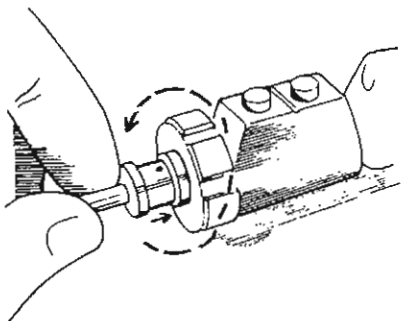

Figure 2-5. Cutter/bur insertion.
*b.* Firmly insert the cutter/bur with a push/twist motion. Refer to figure 2-5.